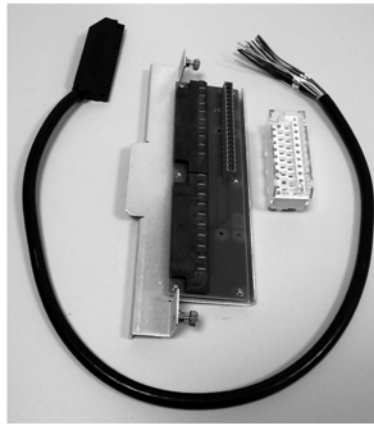

Figure 3
- Generic adapter: requires installer wiring of X80 terminal (Figure 3)